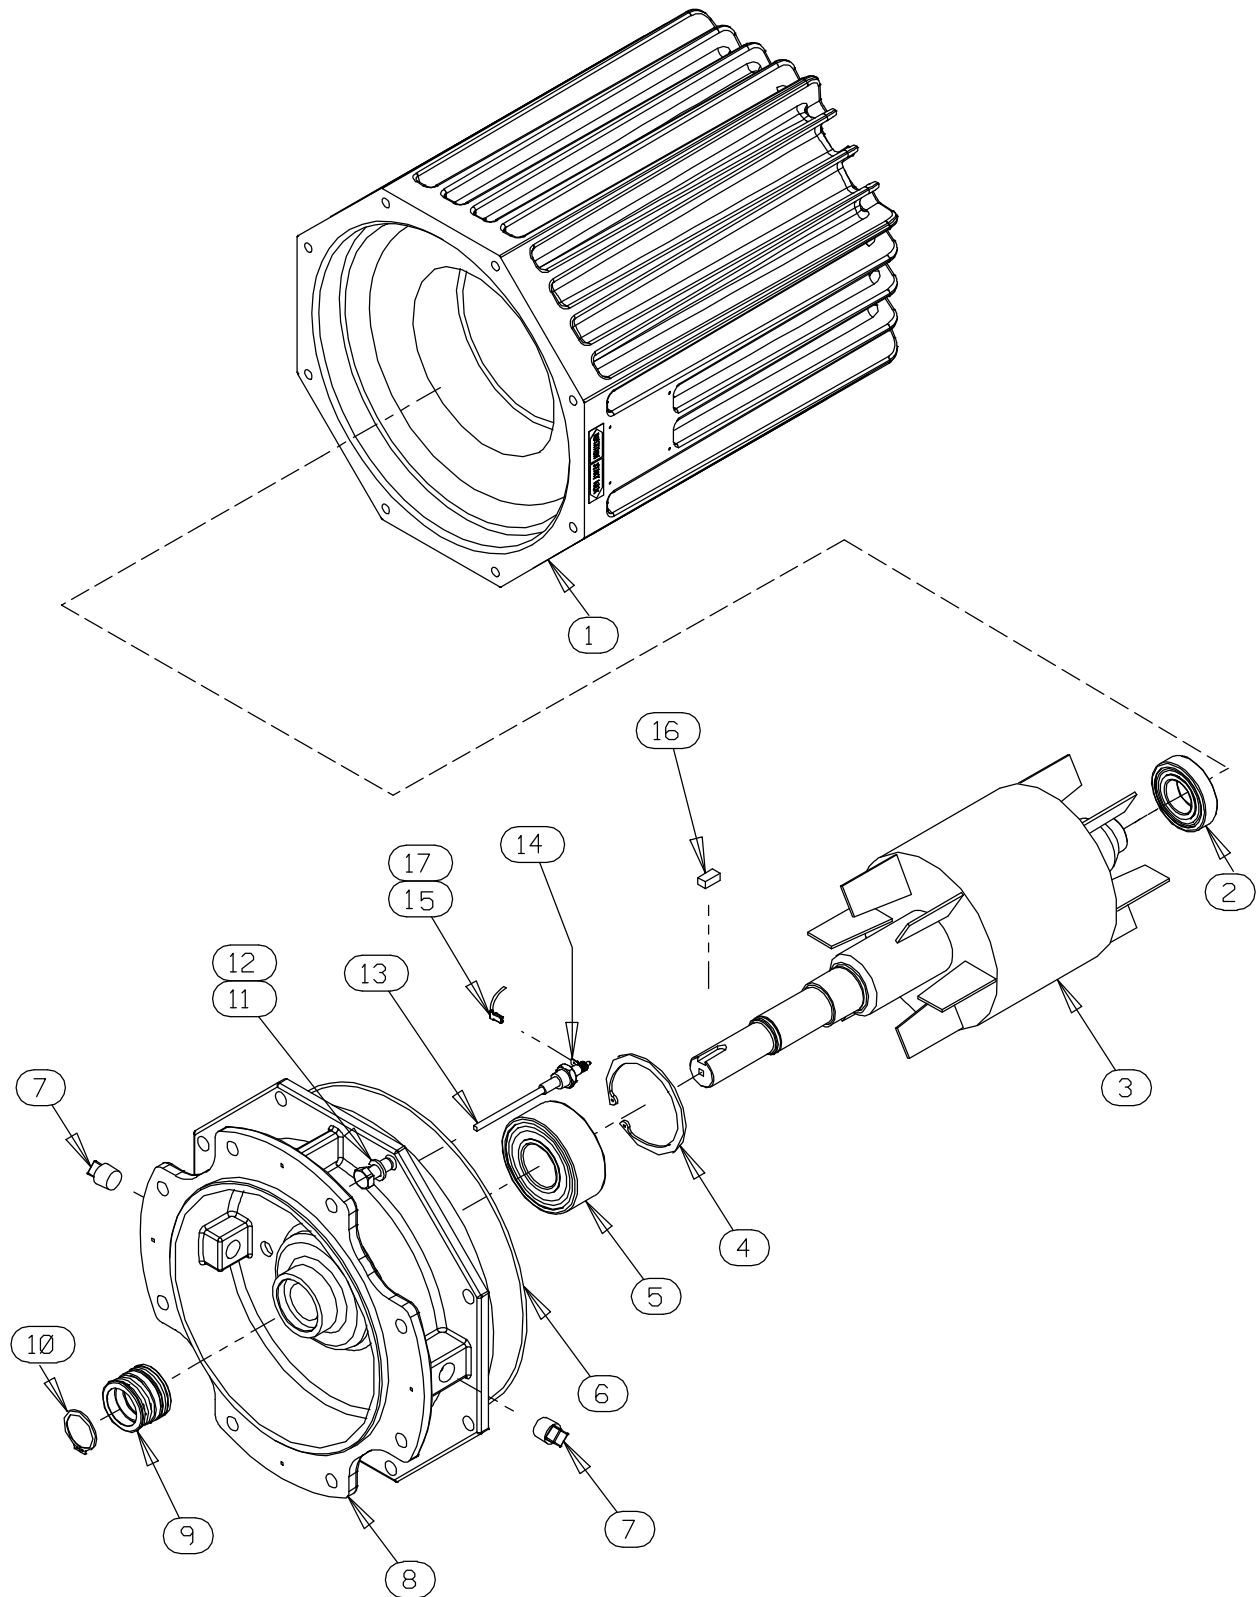

Figure E-2. Motor Assemblies
#### (Figure E-2)
To remove the impeller, use two thin-bladed screwdrivers positioned 180° apart to pry on the back of the impeller and “walk” the impeller off the shaft. Use increasingly larger screwdrivers (or wedges) as necessary. After the impeller comes free of the shaft, retain the impeller key (16, Figure E-2).
*An alternate method of removing the stationary element is to remove the screws (22) securing the seal plate (19) to the motor assembly (13). Pry the assembled seal plate and stationary element off the shoulder of the intermediate (8, Figure E-2). Remove the O-ring (18) and press the stationary element and seat out of the seal plate from the back side.*
### (Figures E-2 and E-3)